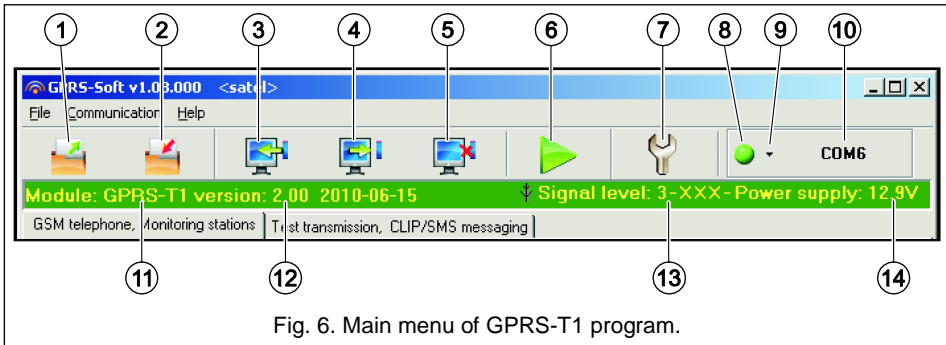

Fig. 6. Main menu of GPRS-T1 program.
The serial COM port of the computer must be connected with the RS-232 (TTL) port on the converter electronics board. The cables for making this connection are available as a set designated DB9FC/RJ-KPL. Indicate in the GPRS-SOFT program the computer COM port to be used for communication with the converter. To do so, click on the "Configuration" button (see: Fig. 6 and explanations for the figure) and, in the window that will open, select one of the available computer COM ports. After activation of the selected COM port, the program will establish communication with the converter.
2. Click on the "Configuration" button (see: Fig. 6 and explanations for the figure) and, in the window that will open, enter the number of TCP port selected for communication with the converter. The number will have to be included in the body of SMS message which will be sent to the converter GSM telephone number to initialize communication.
3. Click on the  button (see Fig. 6). In the menu that will open, select "TCP/IP" to activate the server.
Explanations for Figure 6: